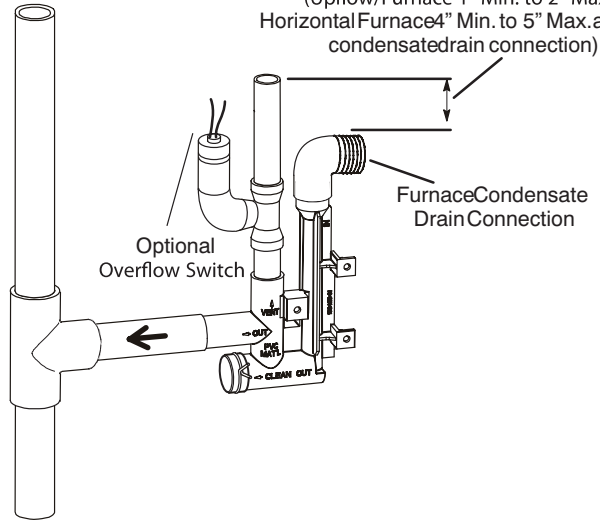
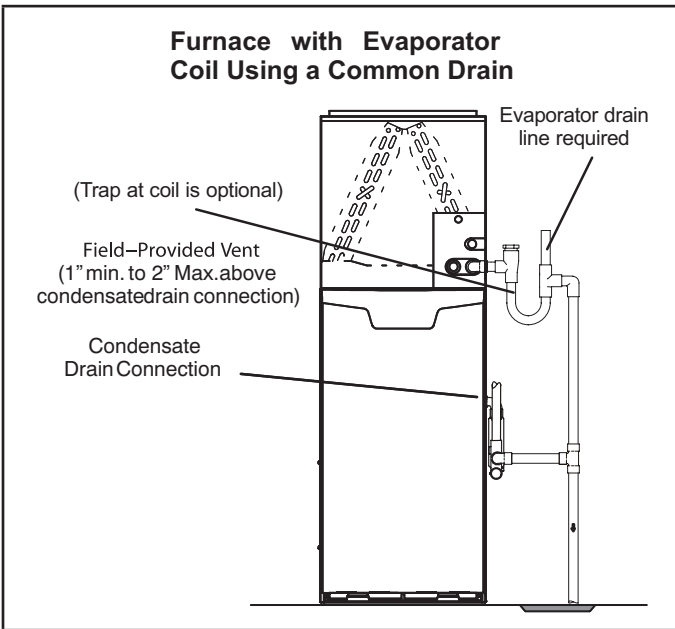

Figure 50
Figure 52
- 5 - Figure 499 and Figure 511 shows the furnace and evaporator coil using a separate drain. If necessary the condensate line from the furnace and evaporator coil can drain together. See Figure 50, Figure 52, and Figure 53. **Upflow furnace Figure 52** - In upflow furnace applications the field provided vent must be a minimum 1" to a maximum 2" length above the condensate drain outlet connection. Any length above 2" may result in a flooded heat exchanger if the combined primary drain line were to become restricted. **Horizontal furnace Figure 53** - In horizontal furnace applications the field provided vent must be a minimum 4" to a maximum 5" length above the condensate drain outlet connection. Any length above 5" may result in a flooded heat exchanger if the combined primary drain line were to become restricted.